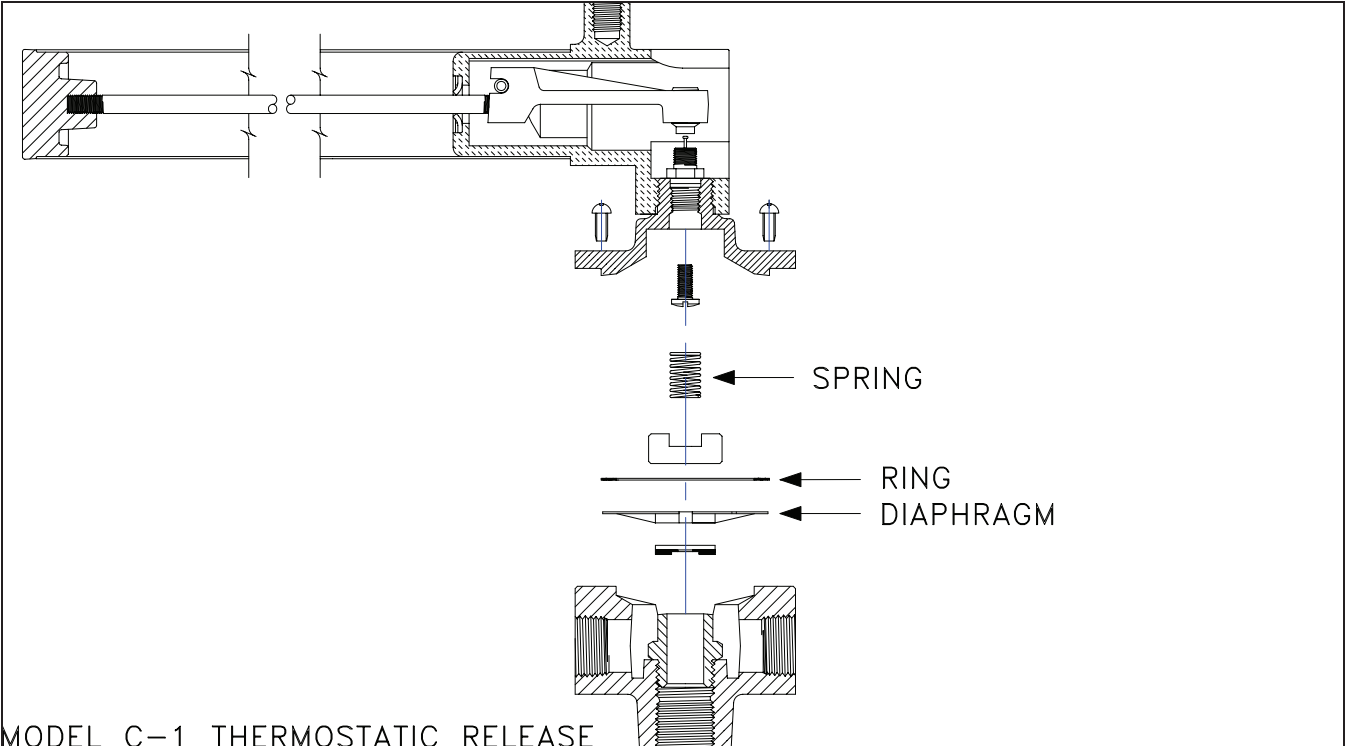

Figure 41
4. Spring, seal ring and diaphragm assembly may be removed (Figure 41).